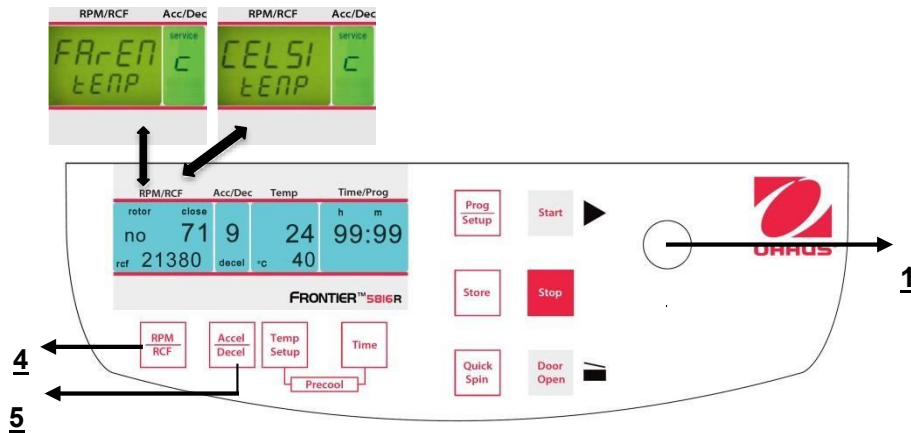

Figure. 34
the word **"CELSI"** flashes and you can change the display into Fahrenheit **"FAREN"**, with the adjusting knob (1) (See figure 34).